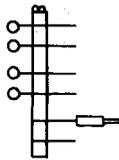

Fig. 13—240H Plug
- 2.13 **240H:** The 240H plug (Fig. 13) is equipped with one 30-cord tip and is used with the test jacks on step-by-step switches.